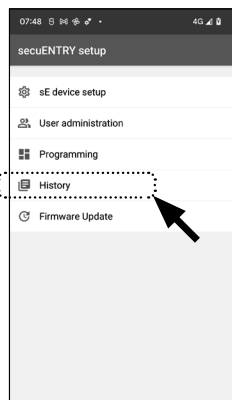

Fig. 89
- ③ Tap on "History" in the submenu (Fig. 89).